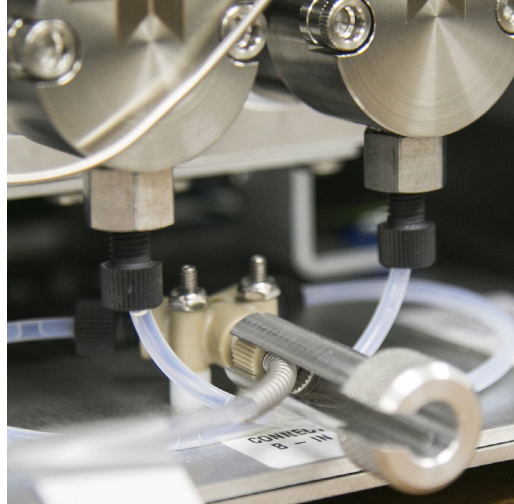

Figure 2-8 Wrench used to tighten the FEP inlet line
3. Connect the *shorter* FEP inlet solvent line to the left side pump's PEEK tee. Slide the open side of the wrench (included) over the tubing and FEP fitting and make small turns as to not bend the tubing (Figure 2-8).
4. Connect the *longer* FEP inlet solvent line to the right side pump's PEEK tee. Slide the open side of the wrench (included) over the tubing and FEP fitting and make small turns as to not bend the tubing (Figure 2-8).